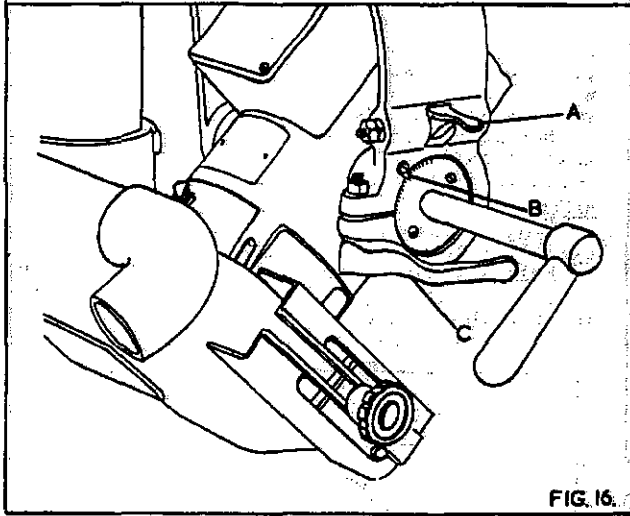

FIG. 16.
2. Ensure the motor locating latch "A" in Fig. 9, the stirrup locating latch "B" and the carriage locking screw "C" in Fig. 16 is securely locked.
The motor swivels within the stirrup through 90°. The principle angles are located by a tapered latch "A" in Fig. 16.